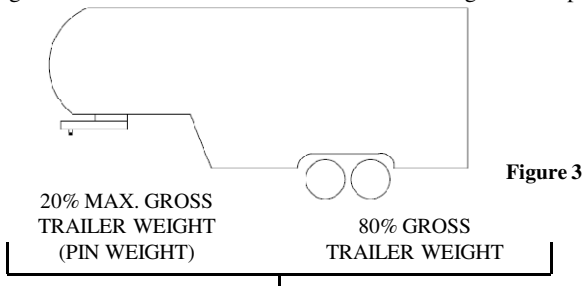

Figure 3
- King pin weight must not exceed 4,200 pounds (See Fig. 3). If in doubt have king pin weight measured by qualified facility.
#### 2. The 5th Airborne pin box is designed for a maximum of 20% Gross Trailer Weight on the pin (Pin Weight). See Fig. 3